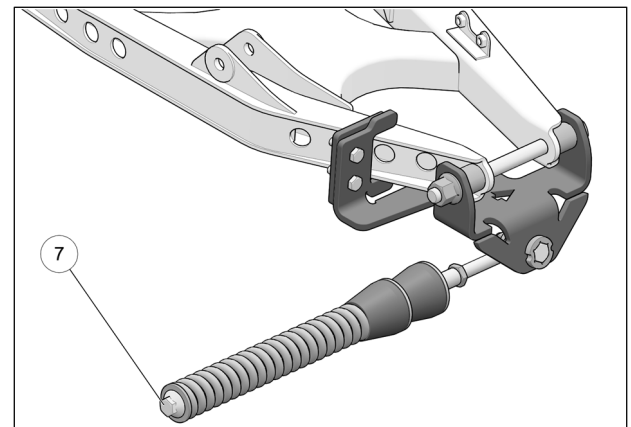

Fig. 14
15. Verify that spring assembly bolt (7) is tightened to the recommended torque specification: 75 N•m [55 lb•ft]. Refer to Fig. 14